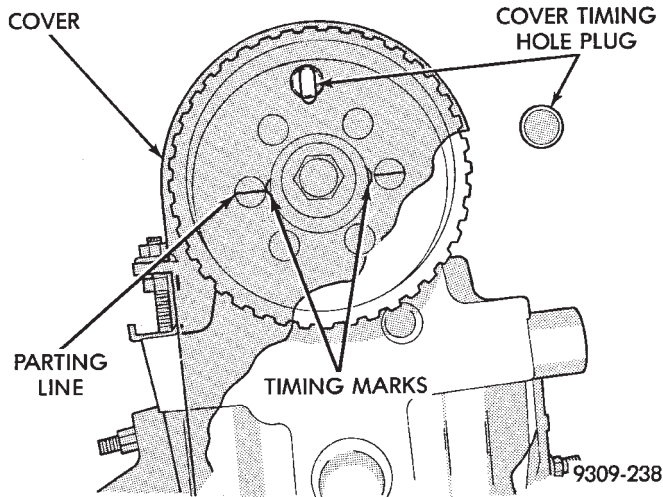

Fig. 12 Camshaft Timing
- (2) Turn camshaft until arrows on hub are inline with No. 1 camshaft cap to cylinder headline. Small hole (arrow Fig. 12) must be in vertical center line.
- (3) Install timing belt.
- (14) Install fasteners holding cover to cylinder head and block. Tighten fasteners to 4 N•m (40 in. lbs.) torque.
- (15) Valve Timing Check; (timing belt cover installed). With number one cylinder at TDC, small hole in sprocket must be centered in timing belt cover hole (Fig. 12). If hole is not aligned correctly perform procedure again.
- (16) Install spark plugs.